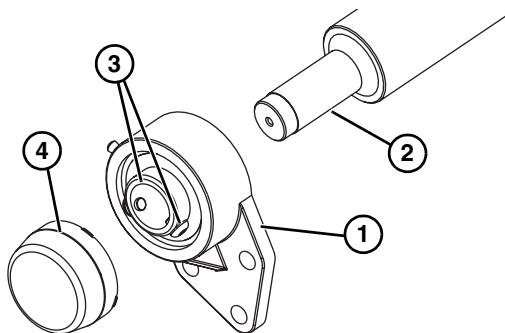

Figure 96
1. Slide the bearing flange assembly (**Figure 96, item 1**), onto the spindle shaft end (**Figure 96, item 2**).
2. Use a hex wrench to tighten the bearing shaft assembly fasteners (**Figure 96, item 3**).
3. Install the bearing cover (**Figure 96, item 4**).